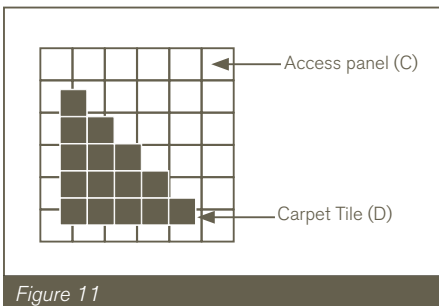

Figure 11
3.4 Raised Access Flooring (see Figure 11)